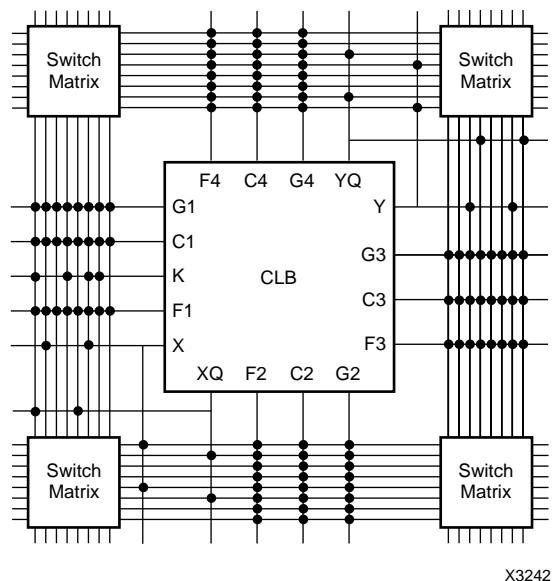

Figure 6. Typical CLB Connections to Adjacent Single-Length Lines
In previous generations of LCAs, the logic-block inputs were located on the top, left, and bottom of the block; outputs exited the block on the right, favoring left-to-right data flow through the device. For the third-generation family, the CLB inputs and outputs are distributed on all four sides of the block, providing additional routing flexibility (Figure 6). In general, the entire architecture is more symmetrical and regular than that of earlier generations, and is more suited to well-established placement and routing algorithms developed for conventional mask-programmed gate-array design.
There are three main types of interconnect, distinguished by the relative length of their segments: single-length lines, double-length lines, and Longlines. Note: The number of routing channels shown in Figures 6 and 9 are for illustration purposes only; the actual number of routing channels varies with array size. The routing scheme was designed for minimum resistance and capacitance of the average routing path, resulting in significant performance improvements.
The single-length lines are a grid of horizontal and vertical lines that intersect at a Switch Matrix between each block. Figure 6 illustrates the single-length interconnect lines
The function generator and control inputs to the CLB (F1-F4, G1-G4, and C1-C4) can be driven from any adjacent single-length line segment (Figure 6). The CLB clock (K) input can be driven from one-half of the adjacent single-length lines. Each CLB output can drive several of the single-length lines, with connections to both the horizontal and vertical Longlines.